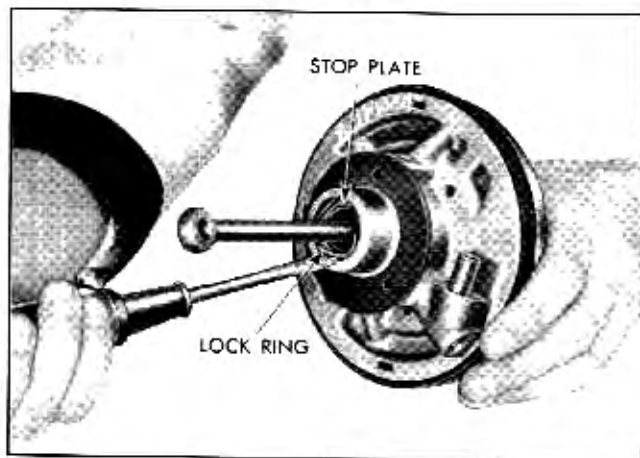

Fig. 5-53 Removing Air Valve Lock Ring
2. Carefully unseat triangular shape lock ring with screw driver to permit removal of push rod and air valve assembly (Fig. 5-53). Exercise caution in removing the lock ring so that it will not flip out and become lost or cause personal injury. Turn power piston assembly upside down. Stop plate washer will slide out of opening in power piston and down onto push rod.